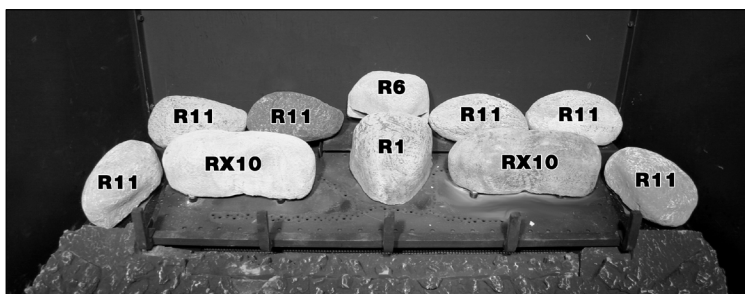

Figure 9.6, Rock Set Installation
1. Optional: Install (3) porcelain panels.
2. Install the (2) rock brackets on the left and right side of the burner.
5. Place the (8) spacers onto the pins on the burner. Tighten with the nuts included with this kit using a 5/16" nut driver.
6. Align the holes in on the bottom each RX10 rock with the pins on the burner, as shown in Figure 9.6. Push to seat.